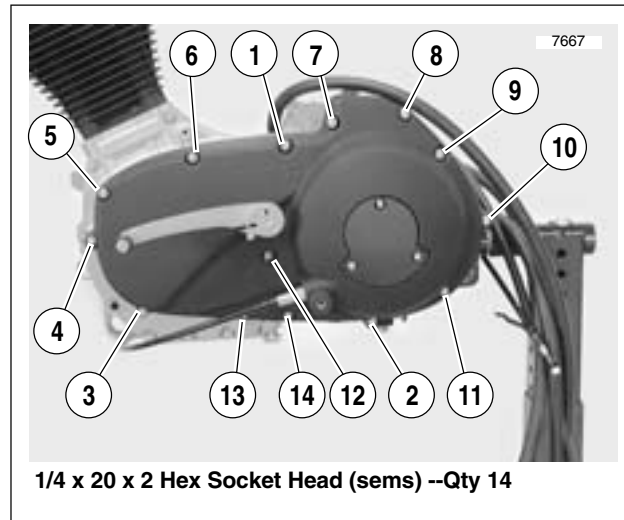

Figure 6-7. Primary Cover Tightening Sequence
3. See Figure 6-7. Install primary cover and gasket onto left crankcase half using mounting bolts.